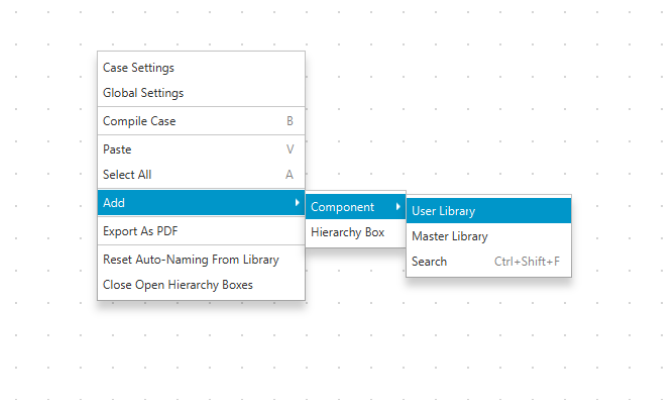

Figure 1.12: Add compiled component.
6. Close the component window and then open Draft. On the Draft press mouse right-click and select Add>Component>User Library and add that .def as a component in the draft (see Fig. 1.12). That should open it there.